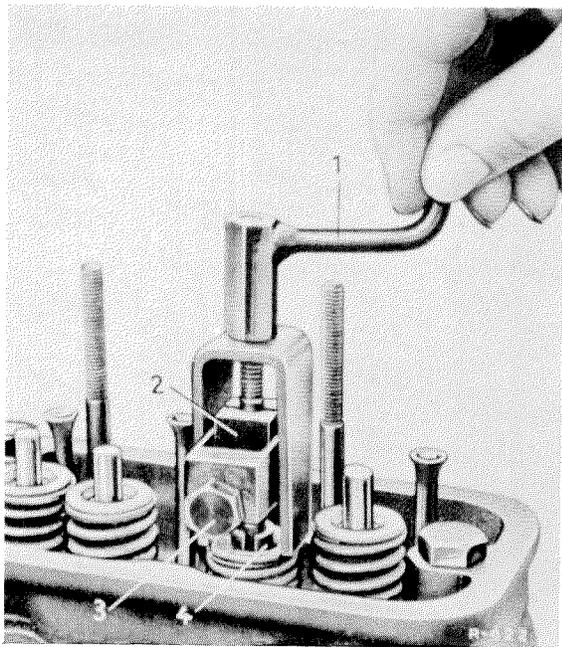

Figure 05-16/3
To do this, place the clamping jaws (2) of the valve lifter over the valve stem and fasten the screw (3) tightly. Then compress the valve spring by clockwise turning of the crank (1) and remove the valve cone halves (4) see Figure 05-16/3).
- Mount the valve spring retainer (3) with Sleeve Part No. 636 050 00 23 on the valve spring (2). Lightly oil a new sealing ring (6) Part No. 636 053 00 60 and slide it over the valve stem, so that it sits on the bottom of the valve spring retainer (see Figure 05-16/2).
- Clamp the Valve Lifter Part No. 636 589 03 31 with the clamping jaws (2) to the protruding end of the valve stem by securing the screw (3) (see Figure 05-16/3). Then compress the valve spring by clockwise turning of the crank (1) and push the sealing ring downwards, so that the valve cone halves can be installed. After inserting the valve cone halves (5) release again the valve spring (2) (see Figure 05-16/2) and after loosening the screw (3) remove the valve lifter (see Figure 05-16/3).